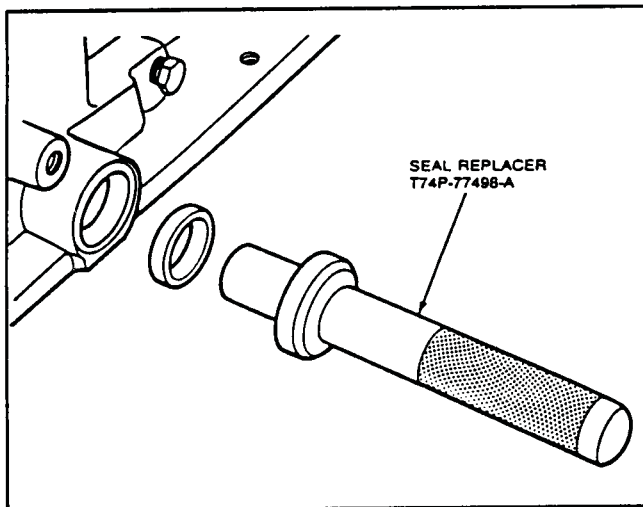

FIG. 24 Shift Lever Oil Seal Installation
14. Install a new seal using Seal Replacer T74P-77498-A or equivalent, (Fig. 24).